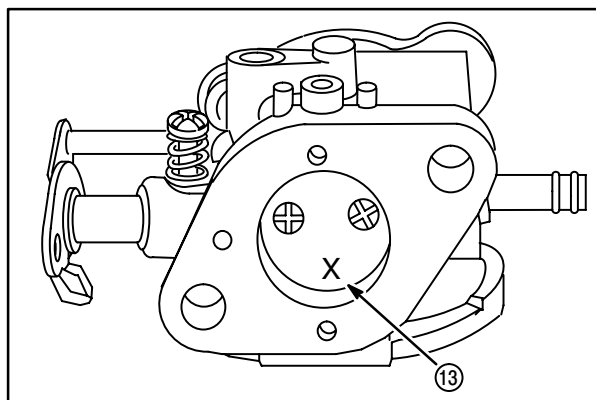

Fig. 28
9. The top and bottom edges of the throttle plate are beveled. Mark throttle plate (13) before removing to ensure reinstallation in the original position, **Fig. 28**.